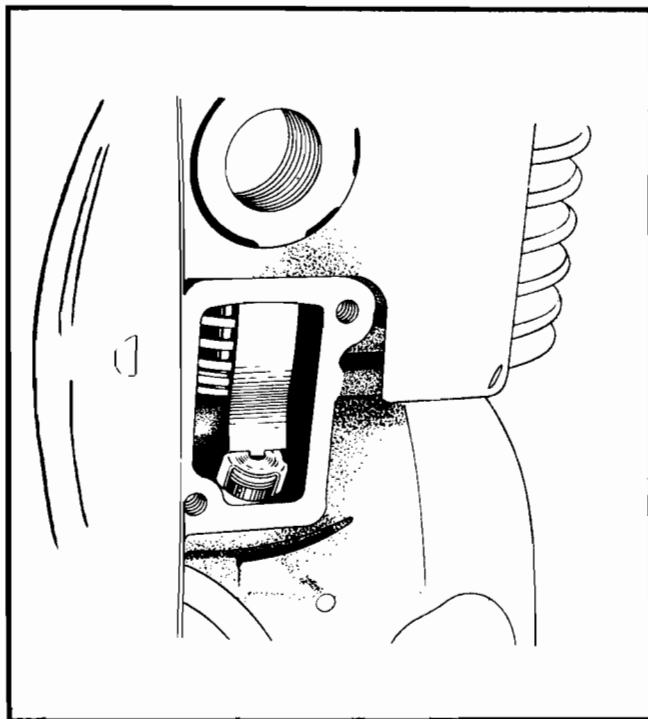

Figure No. 47—Breather Assembly—300 Series Engines
- d. Special precautions are necessary when installing this breather assembly in a vertical shaft engine. Be sure that the oil return tube or the vent hole drilled into the breather seat (See Figure No. 47) (whichever the engine has) is in a downward position or the oil may collect in the valve chamber and be thrown out of the vent in the valve chamber cover.